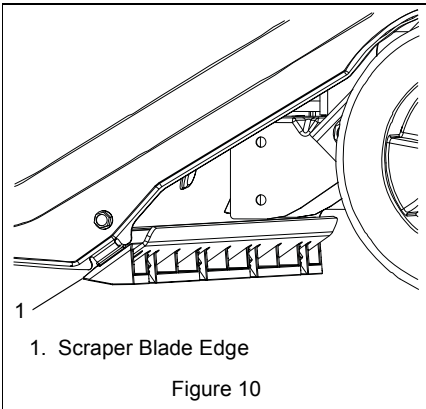

Figure 10
6. Position scraper assembly under housing. See Figure 10.